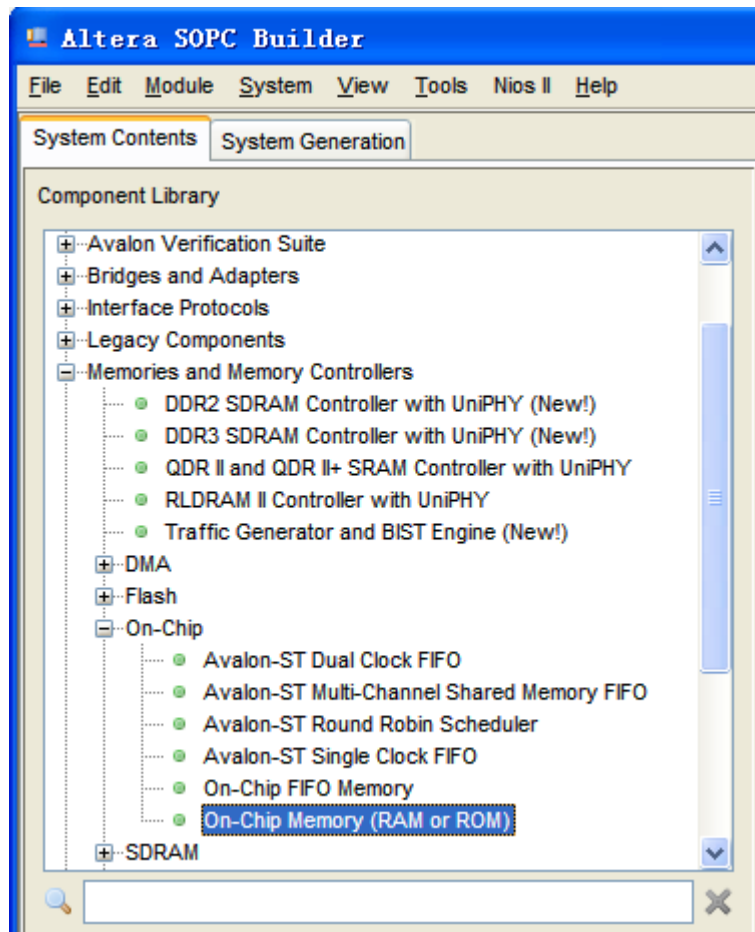
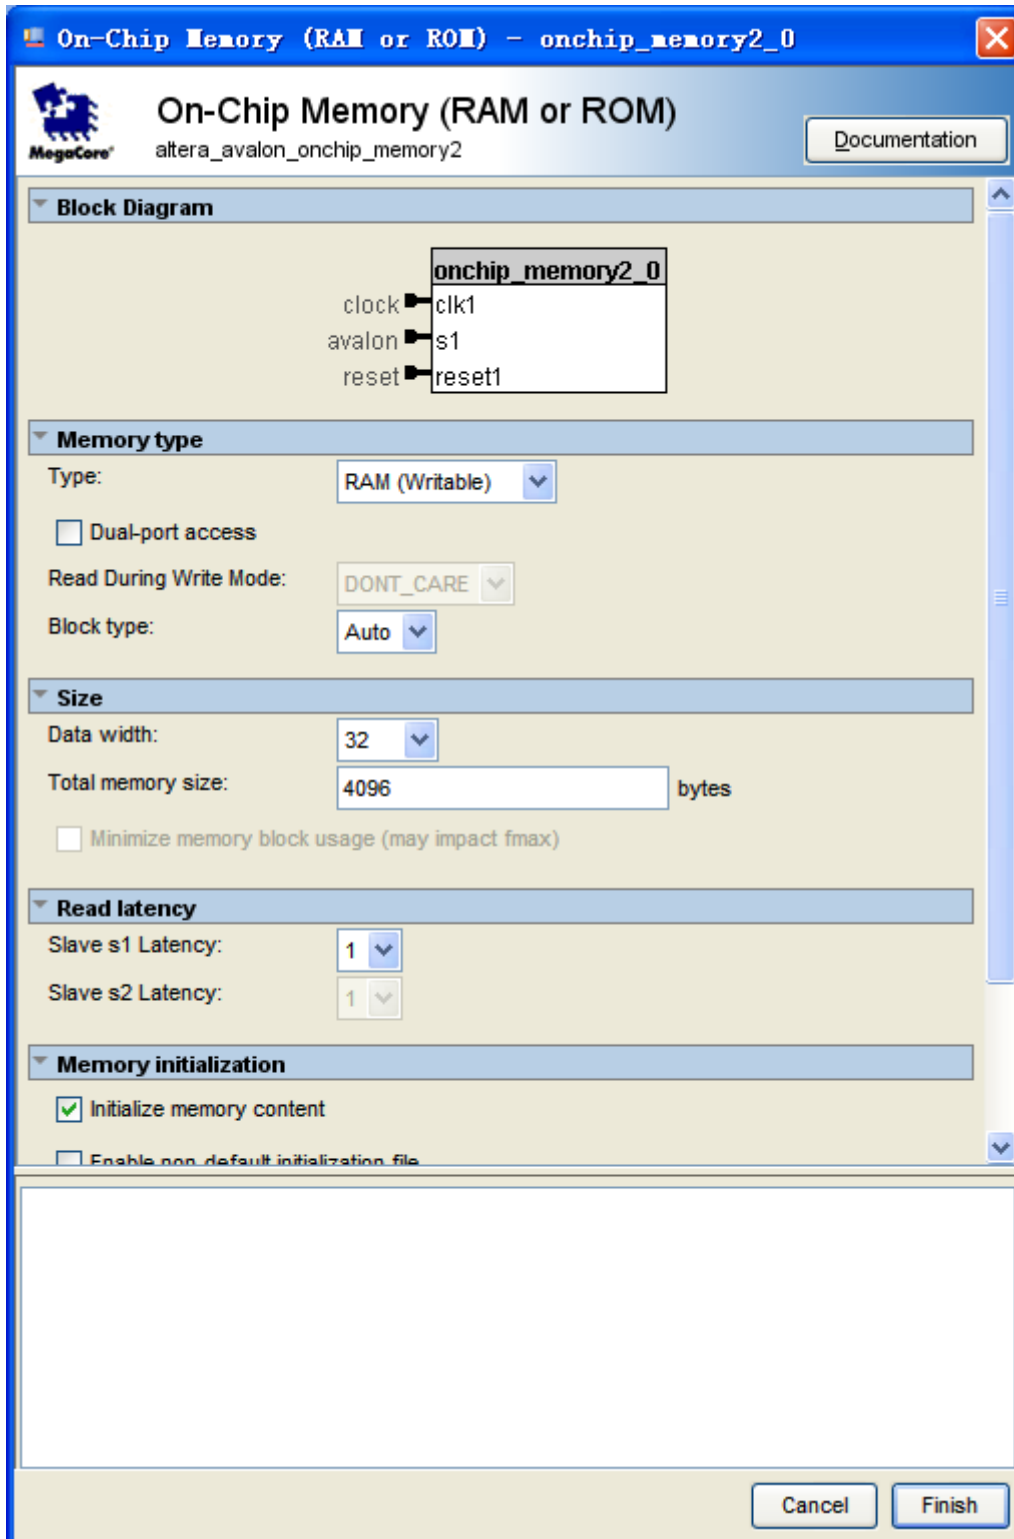

Figure 7-23 Add On-Chip Memory
Figure 7-24 On-Chip Memory Box
15. Choose **Library > Memories and Memory Controllers > On-Chip > On-Chip Memory (RAM or ROM)** to open wizard of adding On-Chip memory. See Figure 7-23 and Figure 7-24.